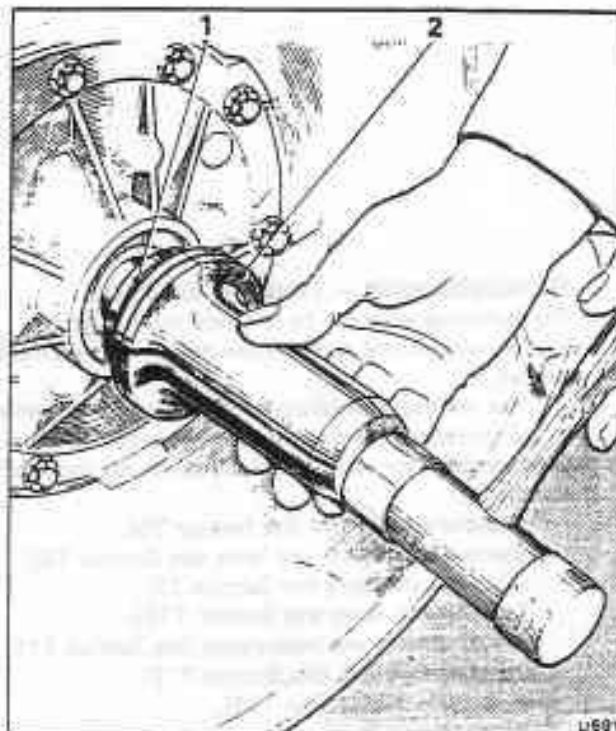

Fig. T4-5 Fitting the oil pump seal
5. Lightly smear the outer edge of the seal case with Wellseal then fit the seal to the pump using tool RH 7953 as shown in figure T4-5.